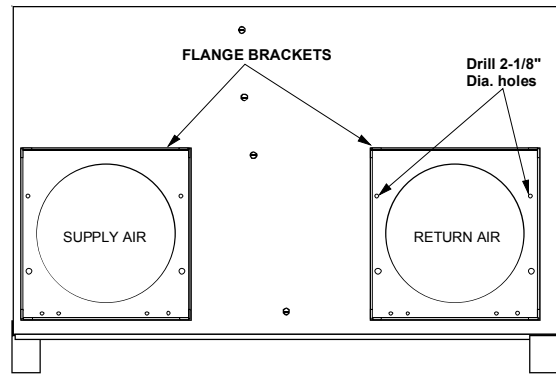

Figure 9 - Flange Bracket Installation
- Center flange bracket (Figure 9) and unit openings. Attach flange brackets to the unit using the removed screws in Step 1. Retighten screws.
- Drill two 1/8" diameter holes on the return air side as indicated in Figure 9.